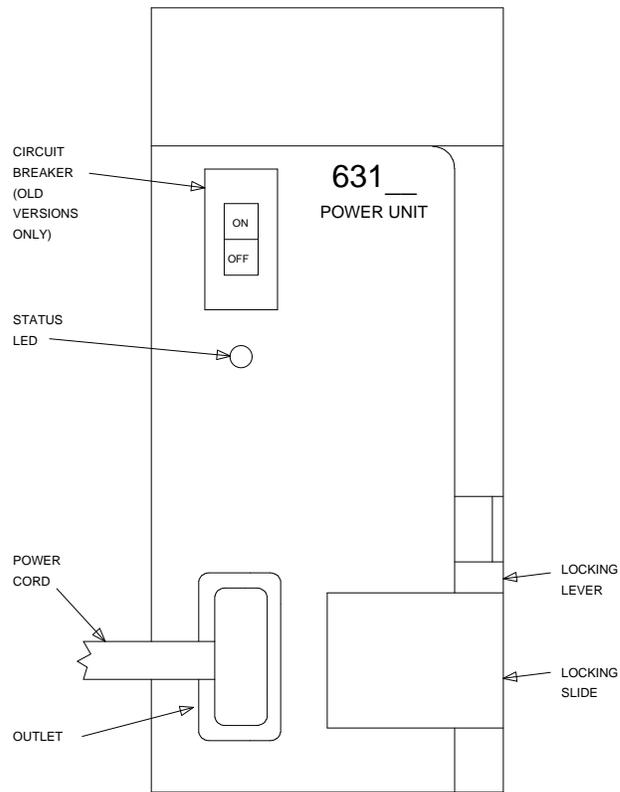

Figure 3-55. 631-Type Power Unit
18. Connect the power cords to the power units. The power cords are the white cables equipped with plugs that are run through the slots in the front of each carrier (see Figure 3-55).